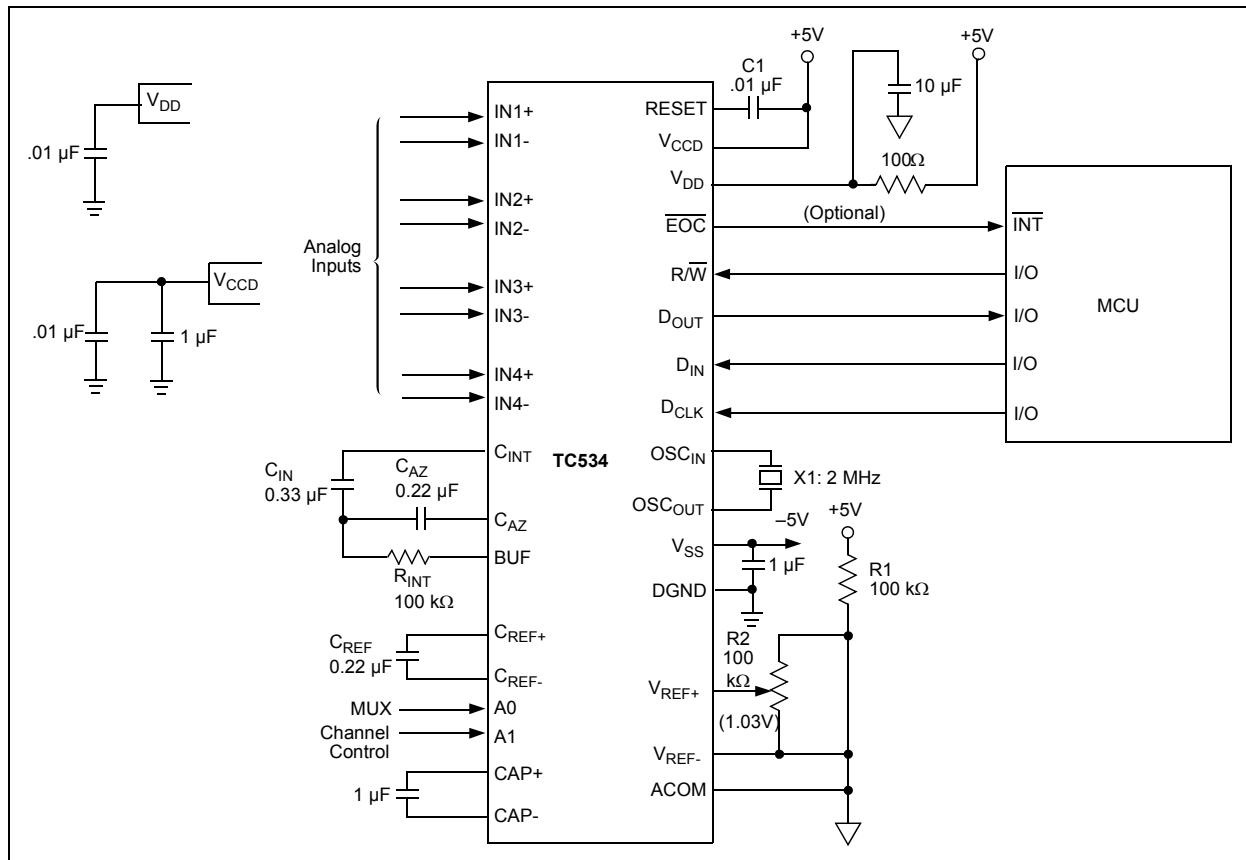

FIGURE 5-1: Typical Application.
Figure 5-1 shows a typical TC530 interrupt-driven application. Timing and component values are calculated from equations and recommendations made in Section 4.1 "Dual Slope Integrating Converter" and Section 5.1 "Programming the TC530/TC534" of this document. The EOC connection to the processor INT input is for interrupt-driven applications only. (In polled systems, the EOC output is available on D_{OUT}).
2. Improper sequencing of the power supply inputs (V_{DD} vs. V_{CCD}) can potentially cause an improper power-up sequence to occur in the internal state machines. It is recommended that the digital supply, V_{CCD} , be powered up first. One method of insuring the correct power-up sequence is to delay the analog supply using a series resistor and a capacitor. See Figure 5-1, TC530/TC534 Typical Application.